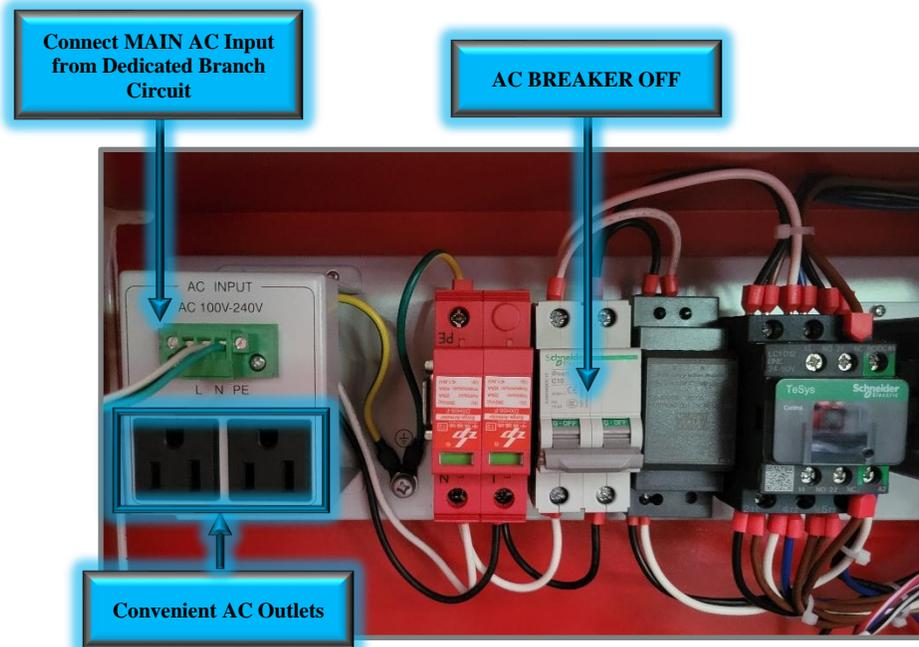

Figure 44: V3 BBU AC Input, AC Breaker OFF, and AC Convenience Outlets
- Connect the AC input into the BBU, as shown below in Figure 44.
CAUTION. There are two convenient AC Outlets provided next to the AC Input. See Figure 44. These are to be used for convenience during commissioning for items like laptops, cell phones chargers, RF Test Equipment, etc. The AC Outlets are in parallel with the MAIN AC Input and are not backed up by battery power. Do not permanently connect any components to the outlets for general system use as they will not work per the code requirements when normal AC power is lost. Furthermore, code requirements mandate the Signal Booster System Components are fed from a dedicated circuit. The AC Outlets should be empty during normal operation after system commissioning.